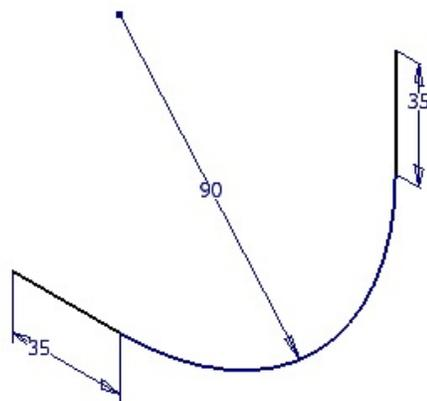
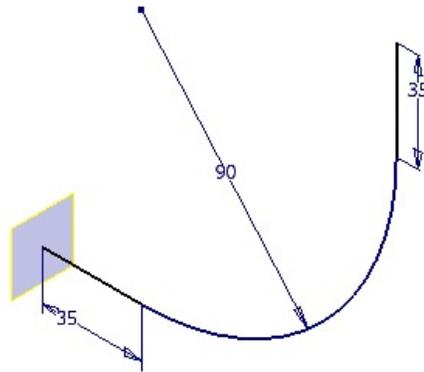
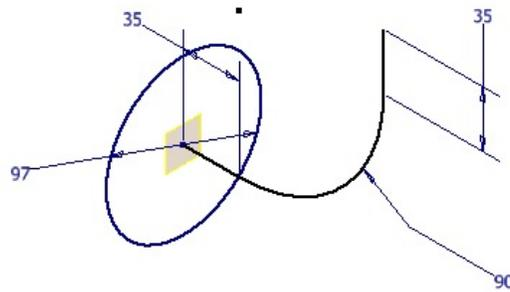
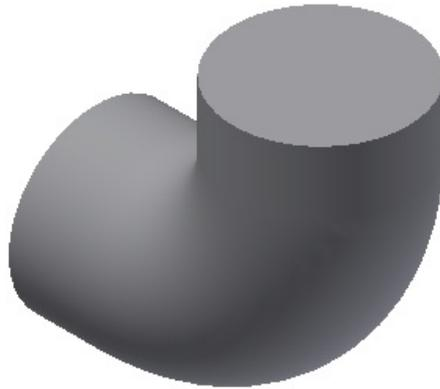

Figure 8-141 Isometric view of the Path for the sweep feature
Figure 8-142 Work plane normal to the path
Figure 8-143 Profile of the sweep feature
Figure 8-144 The sweep feature
- a. The base feature of the model is a sweep feature. Create the path of the sweep feature on the XZ plane, refer to Figure 8-141. Next, define a work plane normal to the path and position it at the start point of the path, refer to Figure 8-142. Create the profile of the sweep feature on this work plane, refer to Figure 8-143. Use the **Sweep** tool to create the sweep feature, refer to Figure 8-144.
1. Start a new metric standard template file and create the path of the sweep feature on the XZ plane. Add the required dimensions. Exit the Sketching environment, and if required, change the view to the isometric view, as shown in Figure 8-141.
As soon as you select the start point of the line, a work plane normal to the line is created and is positioned at the start point of the line. The work plane at the start point of the path is shown in Figure 8-142.
2. Draw a circle of 97 mm diameter as the profile of the sweep feature. Take the center of the circle as the origin of the Sketching environment. Exit the sketching environment and change the view to the isometric view, if required. The profile of the sweep feature is shown in Figure 8-143.
2. Select the path and then choose **OK** from the **Sweep** dialog box. The sweep feature after changing the viewing direction is shown in Figure 8-144.